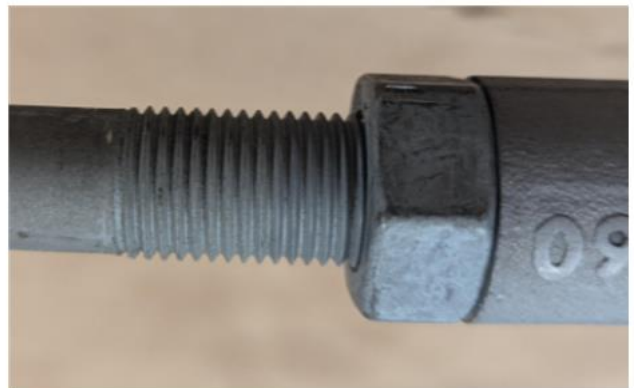

Fig 1 Fig 2.
<<<Note>>> This condition may have happened during service work or possibly a minor collision like wheel contact with a curb. A visual symptom of the issue could be the tie rod adjusters exhibit uneven exposed thread count as shown below (Fig 1 and Fig 2). If this exists- continue with the below inspection.
3. If the tie rod adjusters have a significant visual difference in exposed threads (Fig 1, Fig 2) perform a toe alignment and verify the steering wheel position is straight.